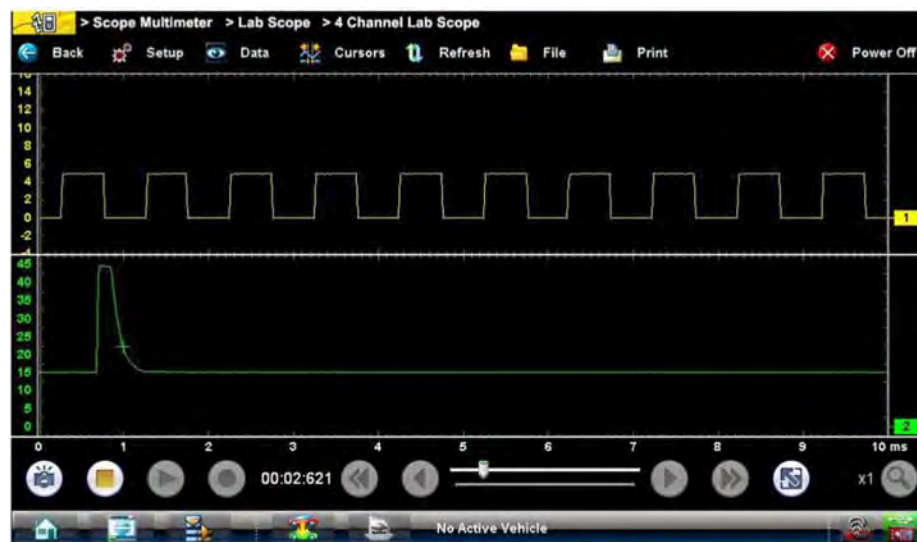
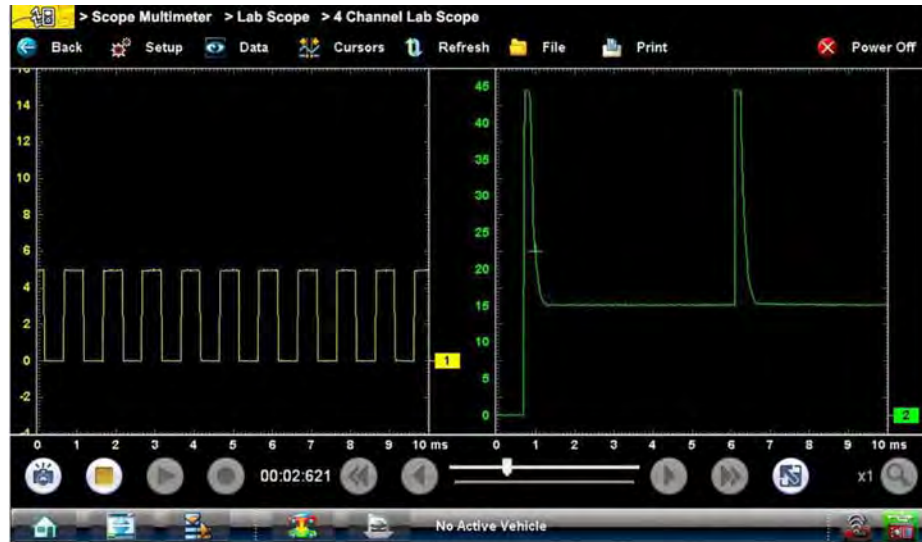

Figure 8-24 Sample 2 Windows horizontal display
Figure 8-25 Sample 2 Windows vertical display
- **2 windows**—shows two separate traces in two ways: horizontal, one below another (Figure 8-24) or vertical, side-by-side (Figure 8-25).